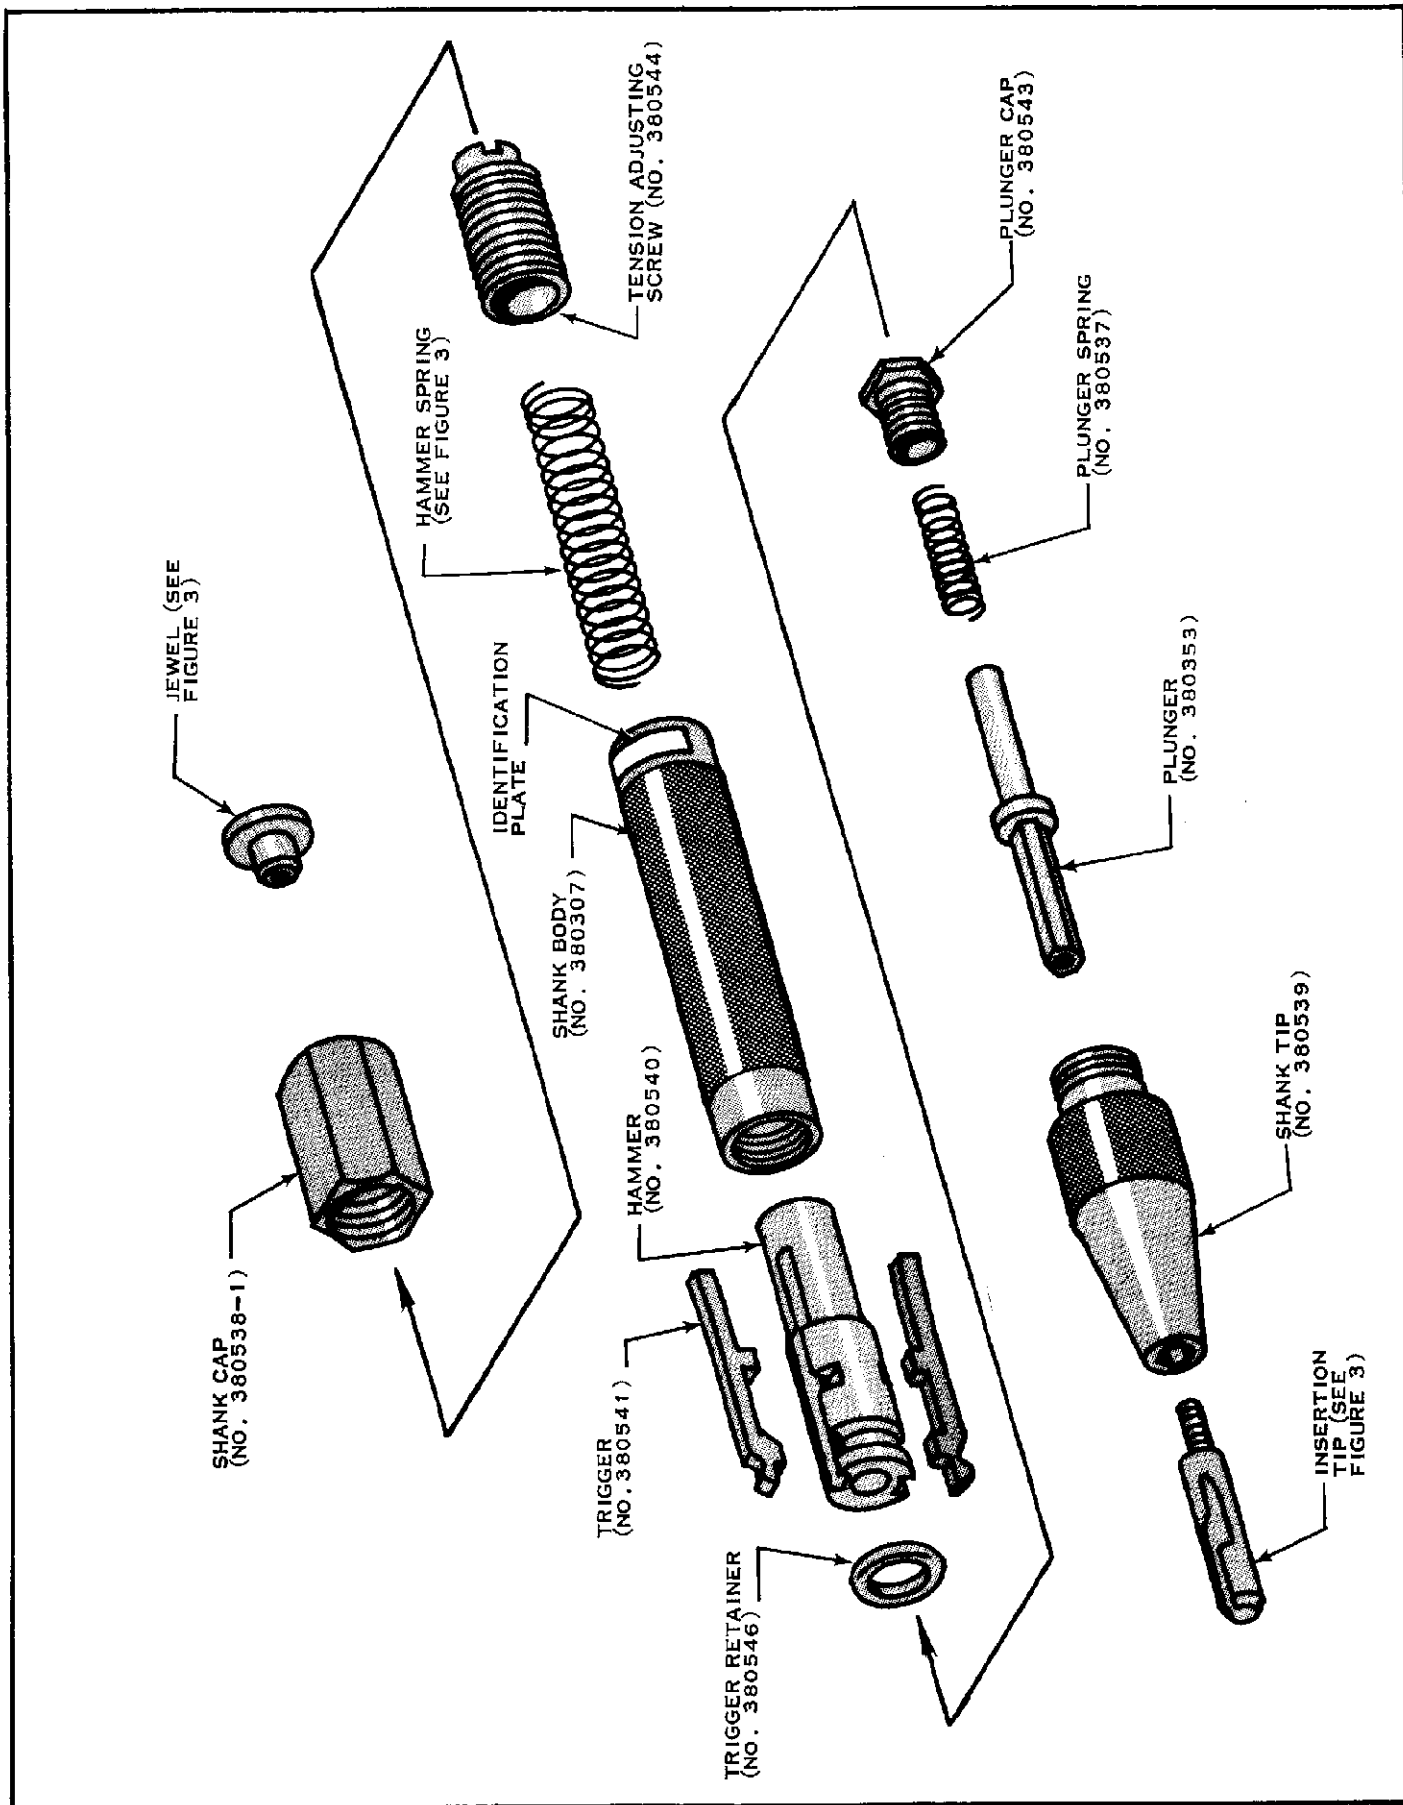

FIGURE 2
3. TOOL DIS-ASSEMBLY (SEE FIGURE 2)
If it is necessary to dis-assemble Tool to replace defective parts, follow the procedure below. Replacement parts may be ordered from AMP using the part numbers shown in Figures 2 and 3.
NOTE The Tip Symbol referred to in Figure 3 is stamped on the Insertion Tip and on the Identification Plate on the Shank Body along with the Tip Number. See Figure 2.
4. TOOL ASSEMBLY (SEE FIGURE 2)